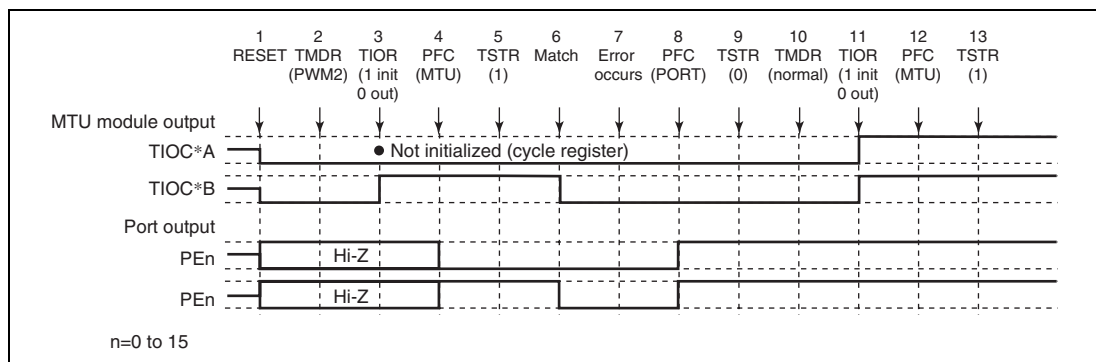

**Figure 11.97 Error Occurrence in PWM Mode 2, Recovery in Normal Mode**
**Operation when Error Occurs during PWM Mode 2 Operation, and Operation is Restarted in Normal Mode:** Figure 11.97 shows an explanatory diagram of the case where an error occurs in PWM mode 2 and operation is restarted in normal mode after re-setting.
1 to 9 are the same as in figure 11.97.